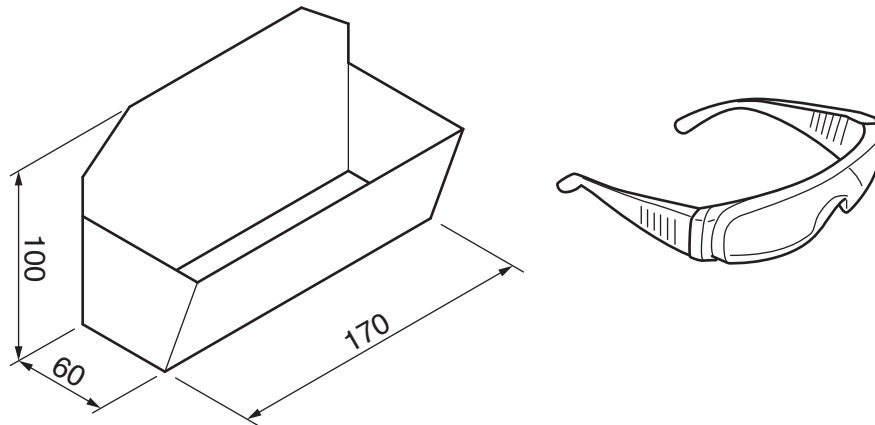

Fig. 16
- 13 Fig. 16 shows a card model for a safety glasses holder. The holder could be made from wood or metal. The safety glasses holder will be wall-mounted in a school workshop.